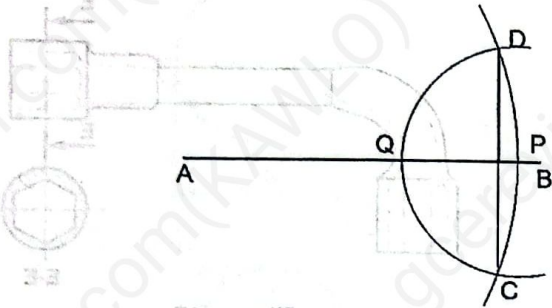

Figure: 19
31. In figure 19 below, which of the following construction line is drawn first to have the bisector AB and DC?